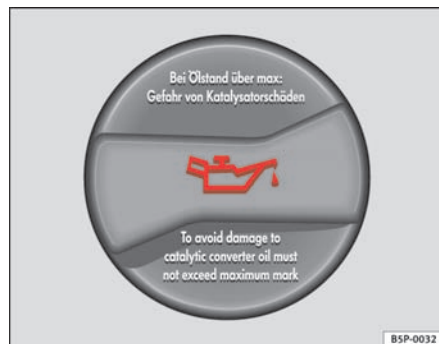

Fig. 113 In the engine compartment: Engine oil filler cap
- Unscrew cap from oil filler opening ⇒ **fig. 113**.